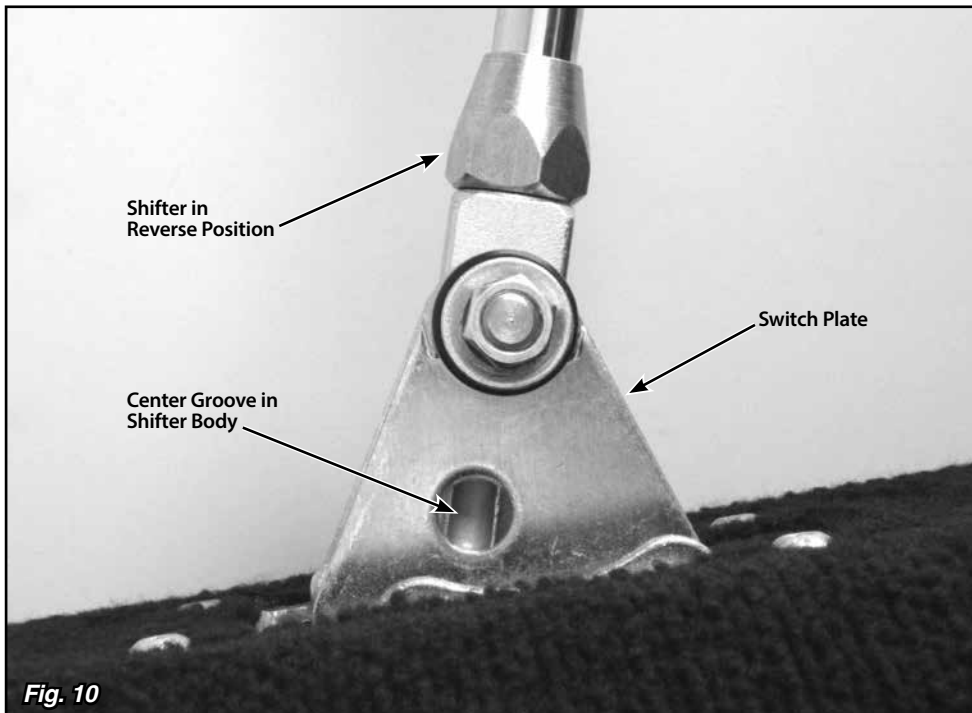

Fig. 10
Step 16: Put the shifter into the Reverse position. Reposition the switch plate so that the hole in the switch plate lines up with the center groove in the shifter body. **Fig. 10** Screw the provided aluminum adjuster plug into the neutral safety switch opening. Wiggling the switch plate slightly forward and back while you are screwing the aluminum adjuster plug in will help get the shifter body centered on the adjuster plug. **Fig. 11**
- **If there are (2) connections for a neutral safety switch**, run a #12 (or heavier) stranded wire from these terminals in your fuse panel to the (2) terminals on the neutral safety switch. That completes the Neutral Safety Switch wiring.